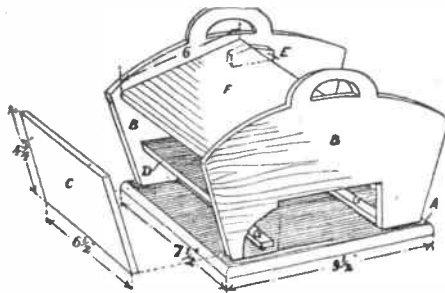

Fig. 3—Showing general construction
The floor (D) measures 9 $\frac{1}{2}$ ins. long by 6 $\frac{1}{2}$ ins. wide, and each end edge is chamfered, as shown in the detail Fig. 3, to meet the sloping ends.